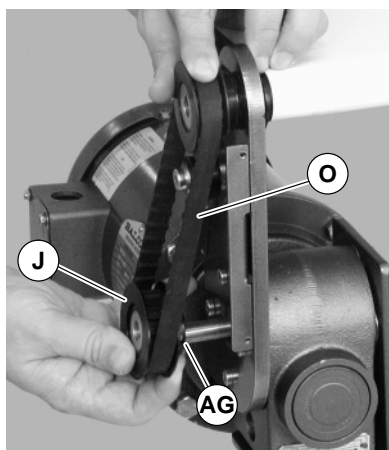

Figure 18
**NOTE:** If drive pulley (J of Figure 18) is replaced, wrap timing belt around drive pulley and complete step 3.
3. Loosen drive pulley set screws (AG of Figure 18). Remove drive pulley (J) and timing belt (O).
**NOTE:** Drive pulley (J of Figure 18) is removed. Wrap timing belt around drive pulley and complete step 16.